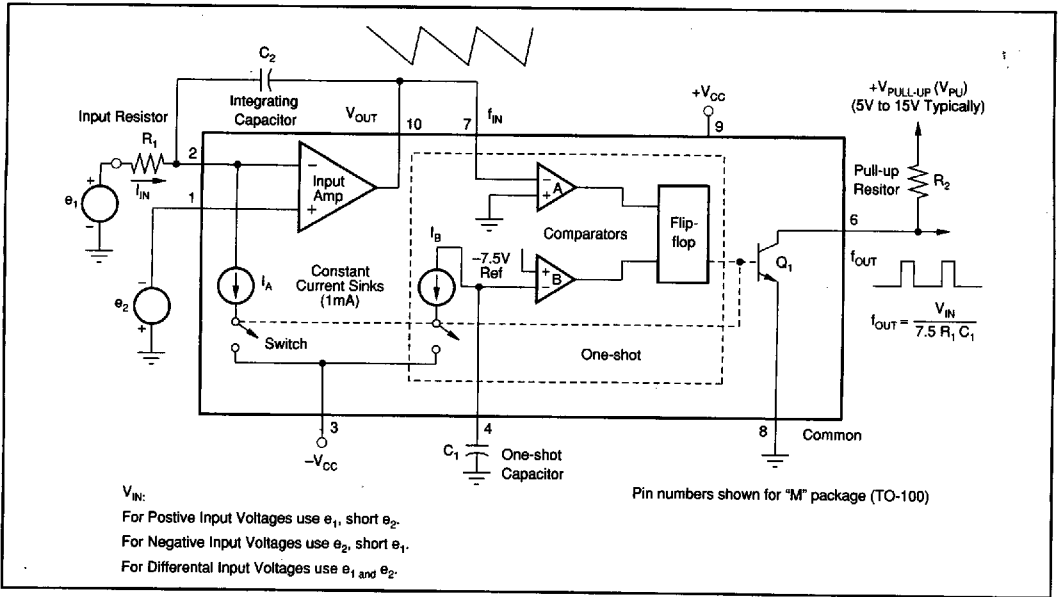
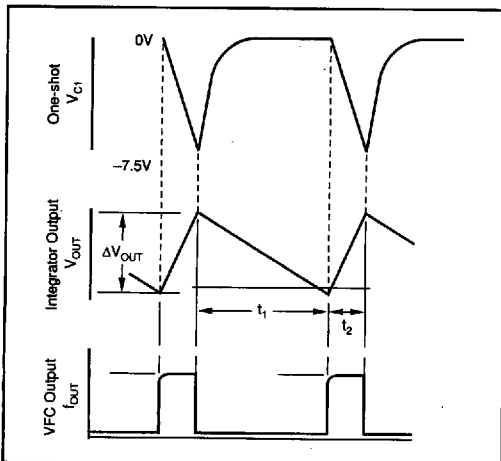

FIGURE 4. Functional Block Diagram of the VFC320.
FIGURE 5. Integrator and VFC Output Timing.
The VFC320 monolithic voltage-to-frequency converter provides a digital pulse train output whose repetition rate is directly proportional to the analog input voltage. The circuit shown in Figure 4 is composed of an input amplifier, two comparators and a flip-flop (forming an on-shot), two switched current sinks, and an open collector output transistor stage. Essentially the input amplifier acts as an integrator that produces a two-part ramp. The first part is a function of the input voltage, and the second part is dependent on the input voltage and current sink. When a positive input voltage is applied at V_{IN} , a current will flow through the input resistor, causing the voltage at V_{OUT} to ramp down toward zero, according to $dV/dt = V_{IN}/R_1C_1$. During this time the constant current sink is disabled by the switch. Note, this period is only dependent on V_{IN} and the integrating components.
The transfer function for the VFC320 is derived for the circuit shown in Figure 4. Detailed waveforms are shown in Figure 5.
In general, the design sequence consists of: (1) choosing f_{MAX} , (2) choosing the duty cycle at full scale ($D_{FS} = 0.25$ typically), (3) determining the input resistor, R_1 (Figure 4), (4) calculating the one-shot capacitor, C_1 , (5) selecting the integrator capacitor C_2 , and (6) selecting the output pull-up resistor, R_2 .